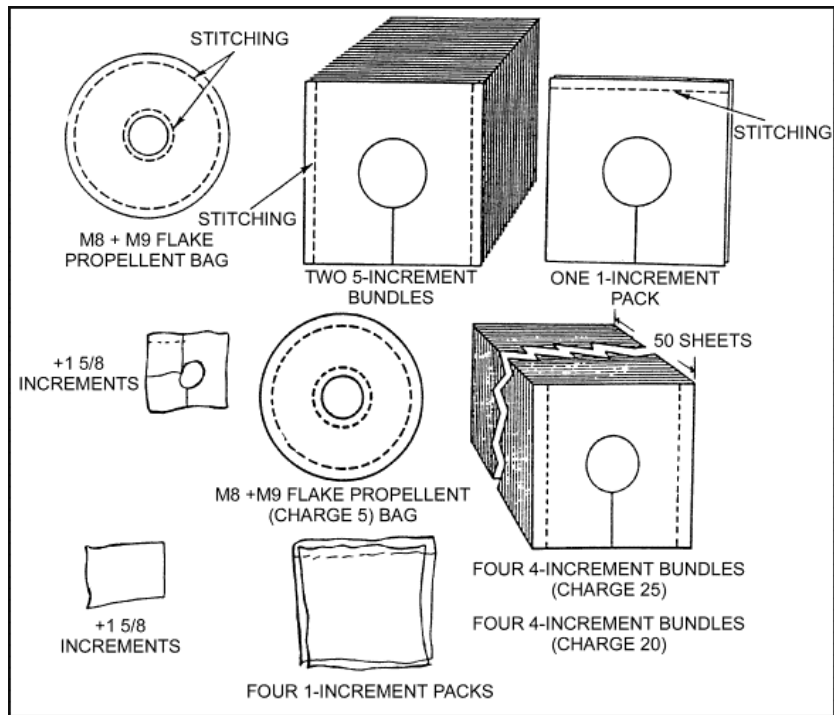

Figure 6-29. Arrangement of propelling charges.
a. **Propelling Charges.** Propelling charges M6, M36A1, and M36A2 are used with 4.2-inch cartridges (Figure 6-29).